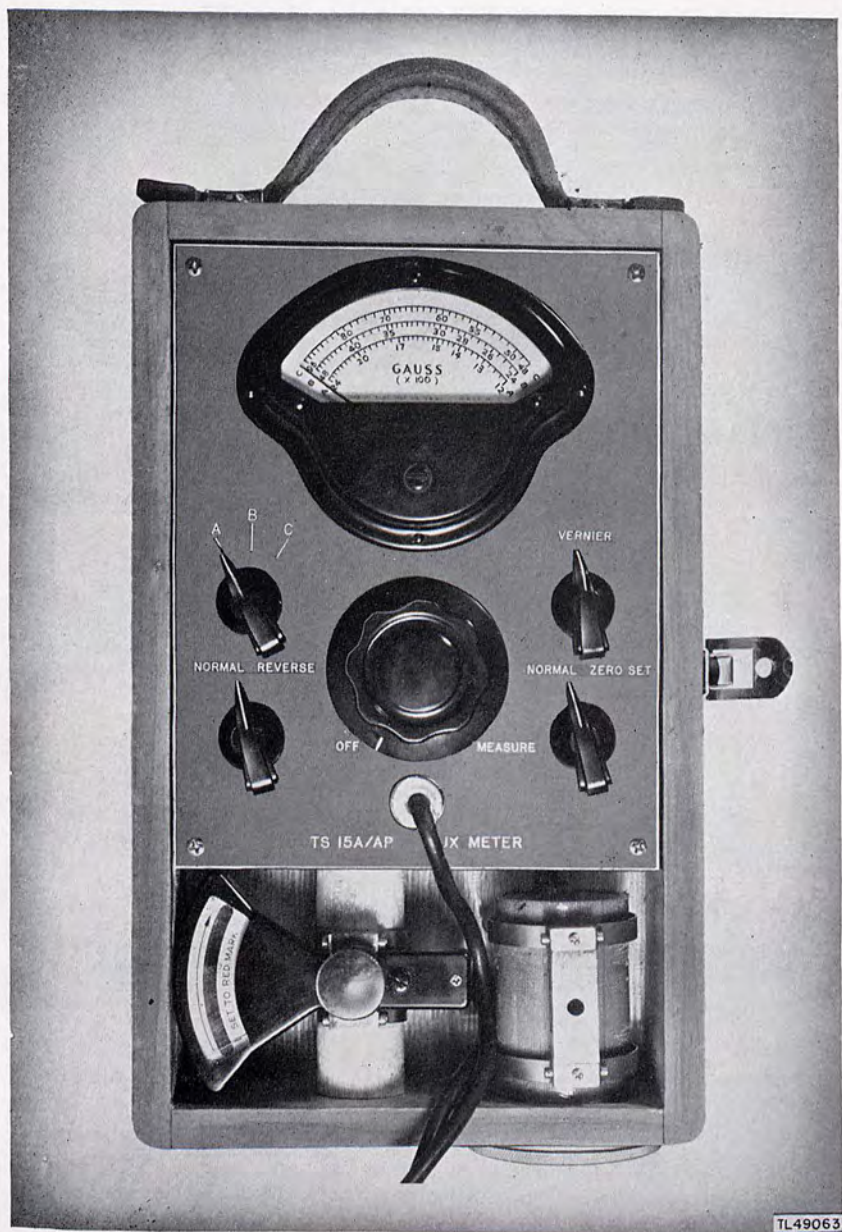

Figure 1. Fluxmeter TS-15A/AP.
a. The series of Fluxmeters TS-15/AP, TS-15A/AP, and TS-15B/AP is designed to provide qualitative measurements of the flux densities in magnets used in oscillatory circuits of X-band and S-band transmitters. Fundamentally, the three fluxmeters have the same basic features (fig. 1). Modifications have been made, however, in the models TS-15A/AP and TS-15B/AP to facilitate operation and insure greater accuracy of measurements. Each instrument is self-contained and mounted in a portable wooden cabinet $4\frac{1}{2}$ inches deep, 6 inches wide, and 10 inches long; the complete set weighs $6\frac{1}{2}$ pounds. A 1.5-volt battery mounted within the case supplies the power for each set.
b. Fluxmeter TS-15A/AP (fig. 1). This instrument measures flux densities on three ranges from 1,200 to 9,600 gauss. The measurements are read on three meter scales marked A, B, and C. The A-scale covers a range of 1,200 to 2,400 gauss; the B-scale, a range of 2,400 to 4,800 gauss; and the C-scale, a range of 4,800 to 9,600 gauss. The meter readings are accurate within ± 2 percent. The panel equipment for this instrument consists of the triple-range gauss meter, a three-position range switch labeled A, B, and C, a two-position switch marked NORMAL and ZERO SET, a two-position switch marked NORMAL and REVERSE, an OFF-MEASURE control including the instrument on-off switch, and a VERNIER control for making finer adjustments of the meter pointers when using the OFF-MEASURE control. In addition to the yoke described in subparagraph **a** above and provided with this instrument, a smaller yoke is supplied for making measurements on magnets with gaps of 0.6 to 0.7 inch and pole face diameters of $\frac{7}{8}$ inch to $1\frac{1}{8}$ inches.